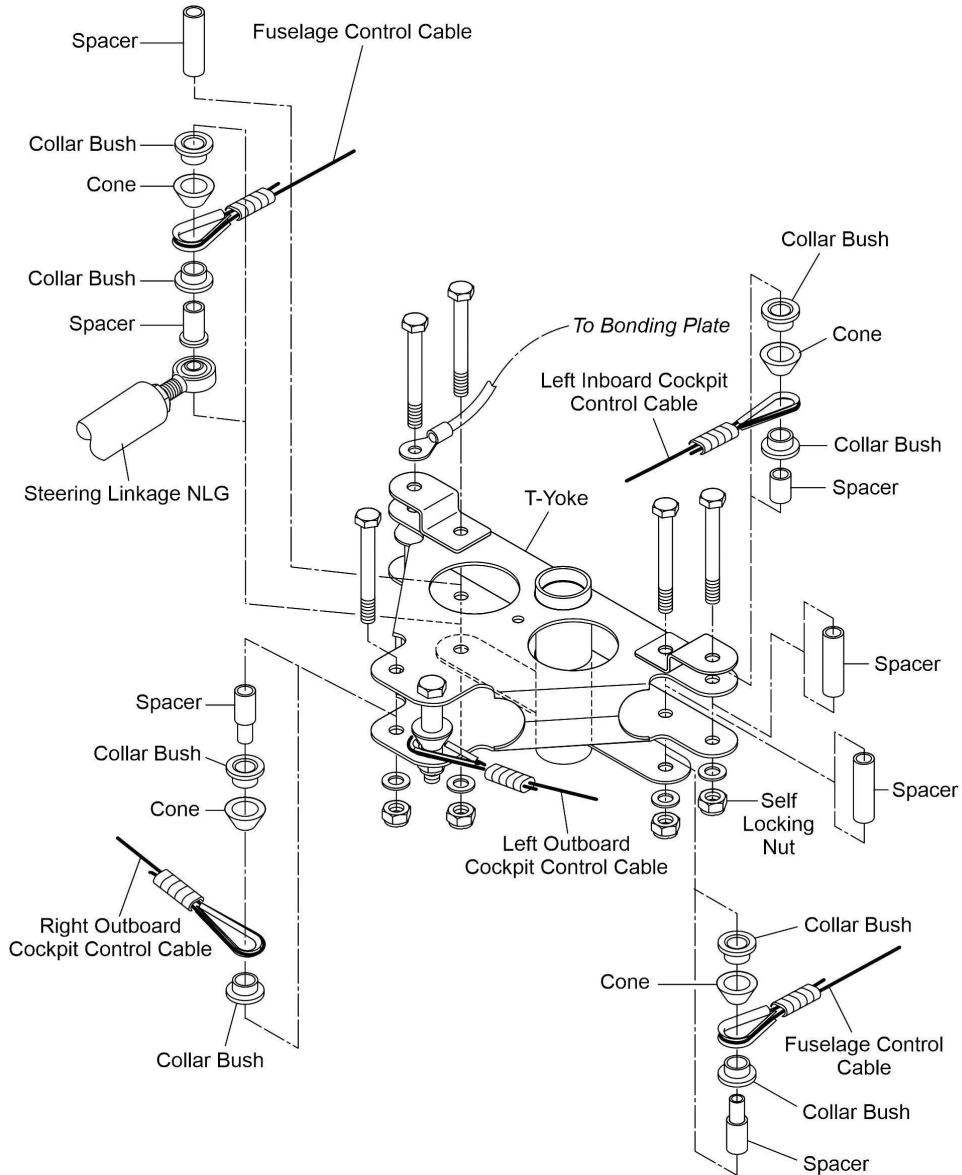

Figure 4B: Cable Installation
(2) Remove the cable between the T-yoke and the turnbuckle: – Remove the nut, washer, bolt, collar bush, cone with pressed-in collar bush and spacers that attach the cable, the NLG steering linkage (only RH side) and the bonding cable (only RH side) to the T-yoke. – Cut the eye end from the cable that you will remove at the T-yoke. – Remove the old cable aft. – Cut the eye end from the cable that you will remove at the turnbuckle.	Refer to Figure 4B.